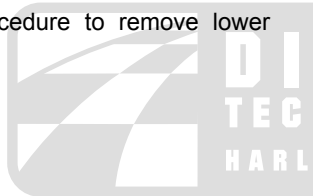

Figure 2-120. Bearing Puller Based on Universal Wedge Attachment (typical)
1. See Figure 2-120. Assemble a bearing puller using a using a UNIVERSAL WEDGE ATTACHMENT (Part No. HD-95637-46A), two lengths of threaded rod, washers, nuts, a cross clamp or bridge, and a forcing screw and a washer or protective cap.